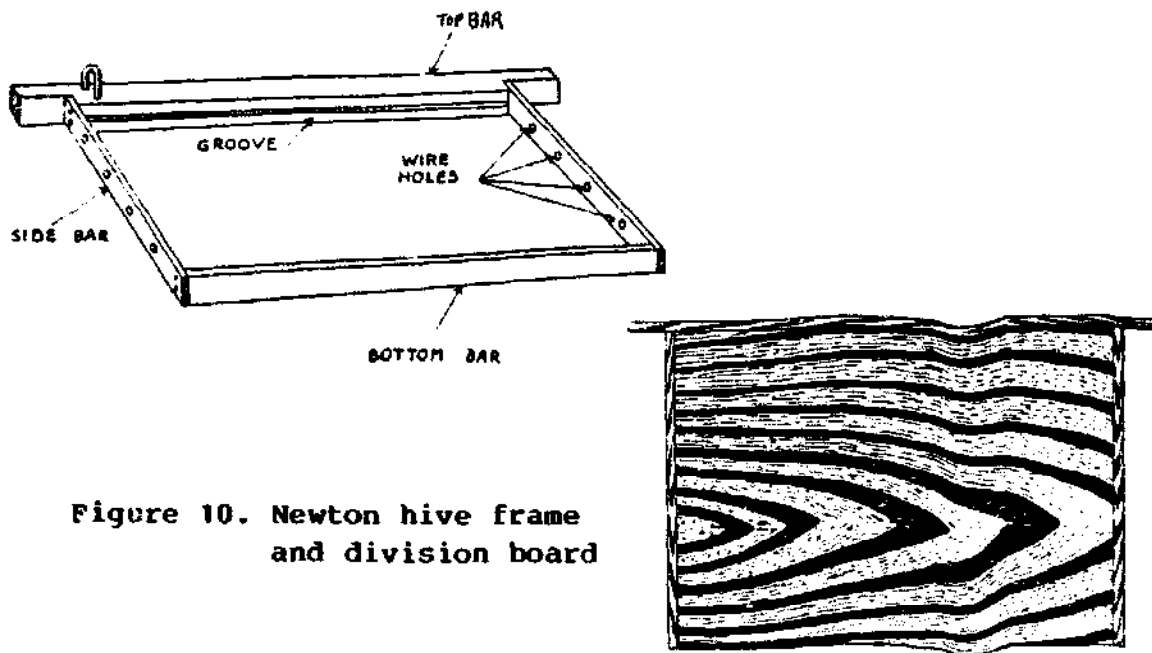

Figure 10. Newton hive frame and division board
4. Wooden frames [for brood chamber and honey super]. Seven frames are usually used in each brood chamber and honey super. The brood chamber can be used with six frames and one "division board" (see Figure 10). The division board is a